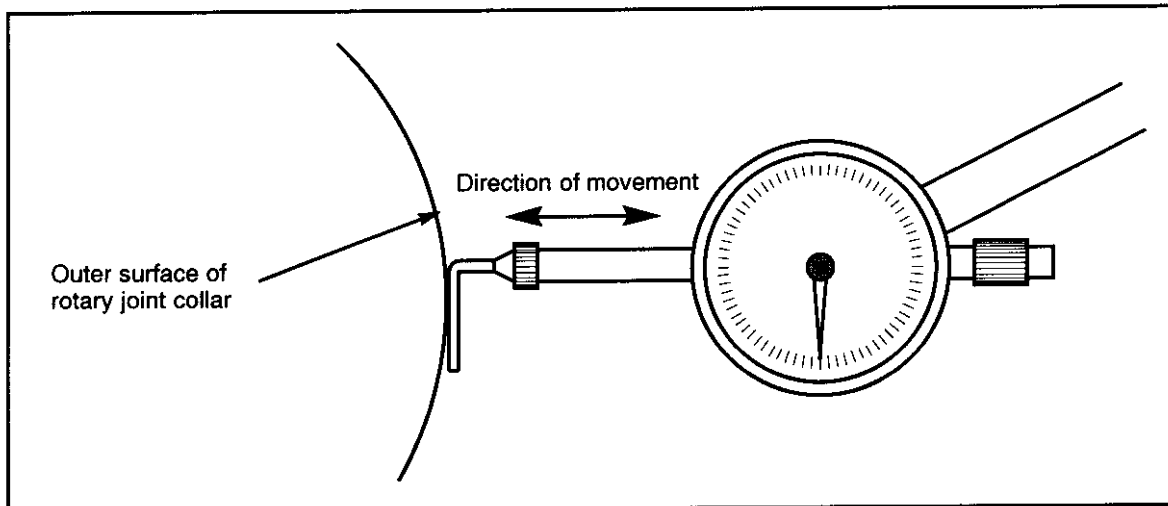

Figure 25. Dial Indicator Feeler Installation
3. Attach a feeler to the dial indicator that allows the dial indicator to be mounted at a 90° orientation to the rotary joint collar. Refer to Figure 25.